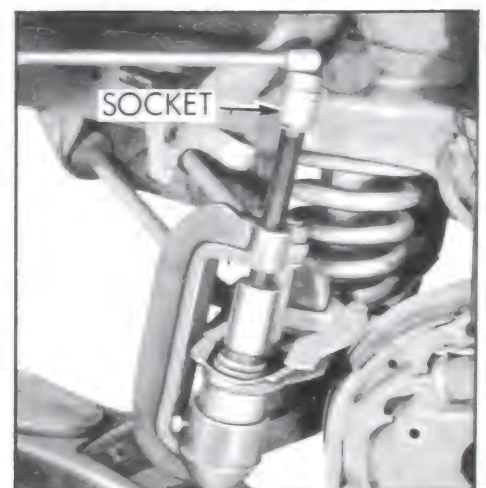

Figure 7-14—Removing Lower Ball Joint
7. Tighten Detail J-9519-8 with a socket and handle as shown in Figure 7-14 until ball joint is forced out of the lower control arm. **CAUTION:** Ball joint may pop out suddenly.